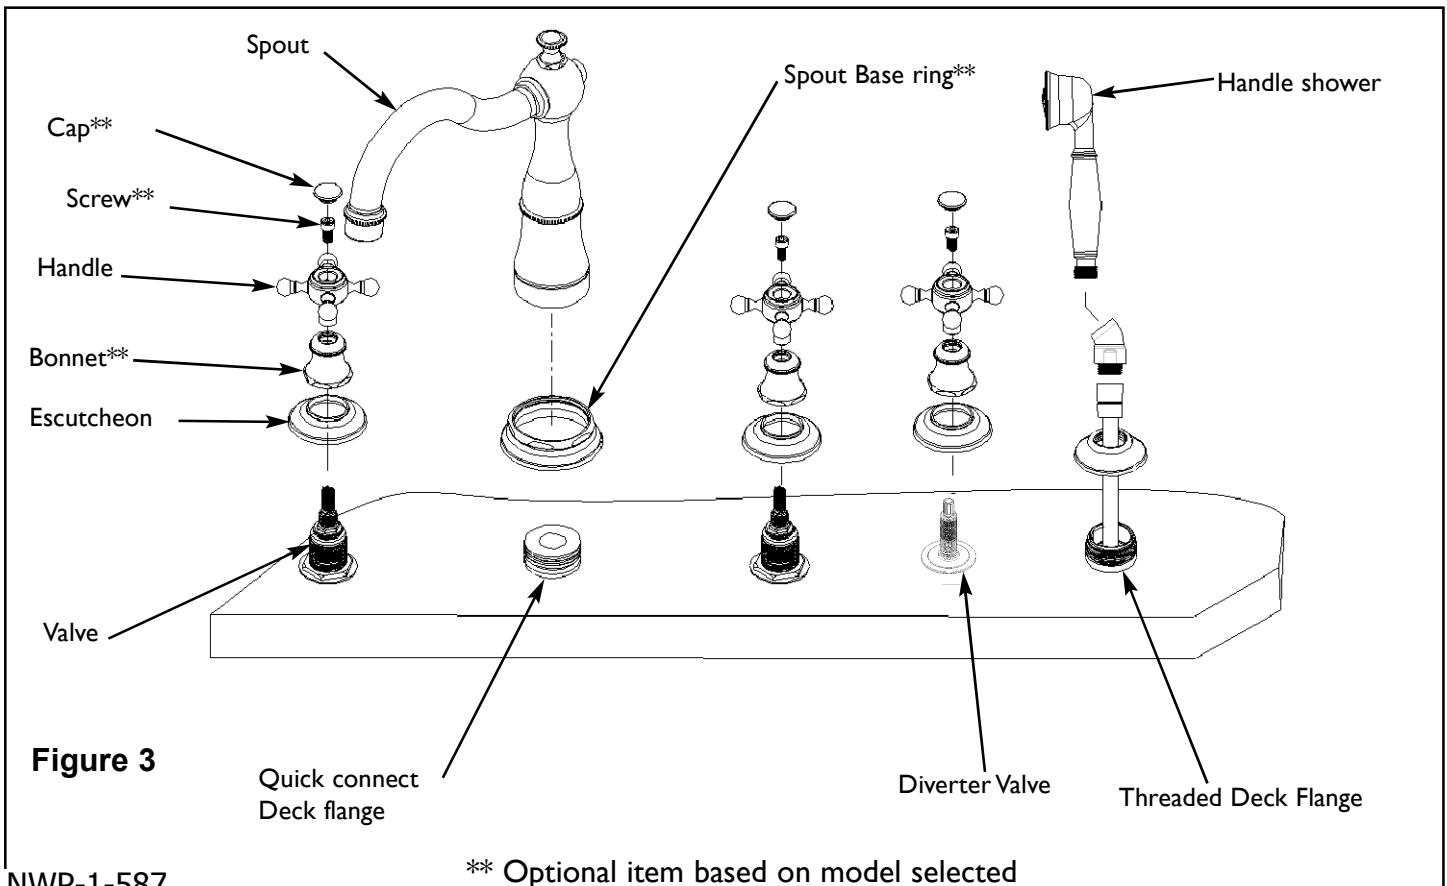

Figure 3
1. Attach handle and diverter trim to valves. Any adjustments for rotational alignment must be made to the valve body - not to the cartridge. (Note: Allow minimum spacing between handles and escutcheon/bonnet to prevent damage to the surface finish.) Secure handles into place with screw and press cap into top of handle. See Figure 3.
2. Slide Base Ring** onto Spout Assembly, exposing the setscrew. Align and press spout assembly onto quick connect deck flange. Make sure spout is flush with deck. Secure spout onto quick connect with setscrew. See Figure 3.